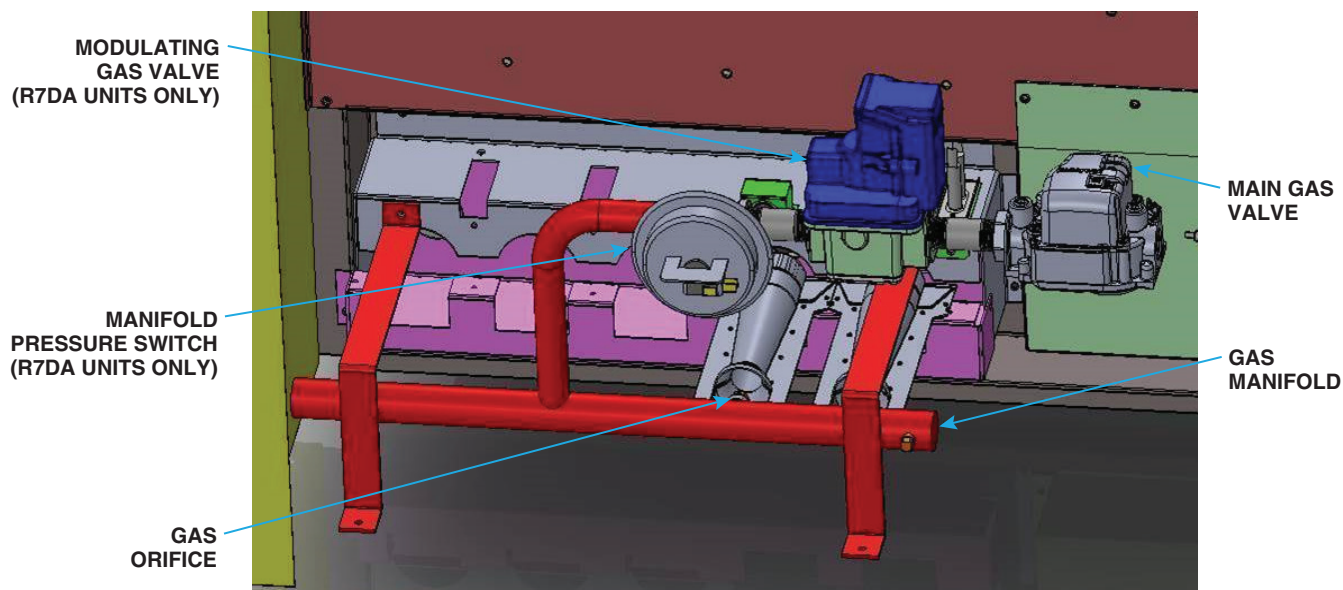

Figure 2. Typical Gas Manifold Assembly
- d. Remove four fasteners that secure gas manifold to burner box and carefully remove gas manifold assembly (see Figure 2) from burner box.
- a. Disconnect diaphragm-type manifold pressure switch (see Figure 2) wiring. Label wires to ensure correct reconnection.
- b. Unthread existing manifold pressure switch (see Figure 2) from piping and remove switch. Inspect and clean pipe threads as necessary.
- a. Carefully install gas manifold assembly (see Figure 2) in burner box and secure using four fasteners removed in step 2d. Ensure that alignment of burners with heat exchanger tubes is correct—center of burners should be aligned with center of tubes.